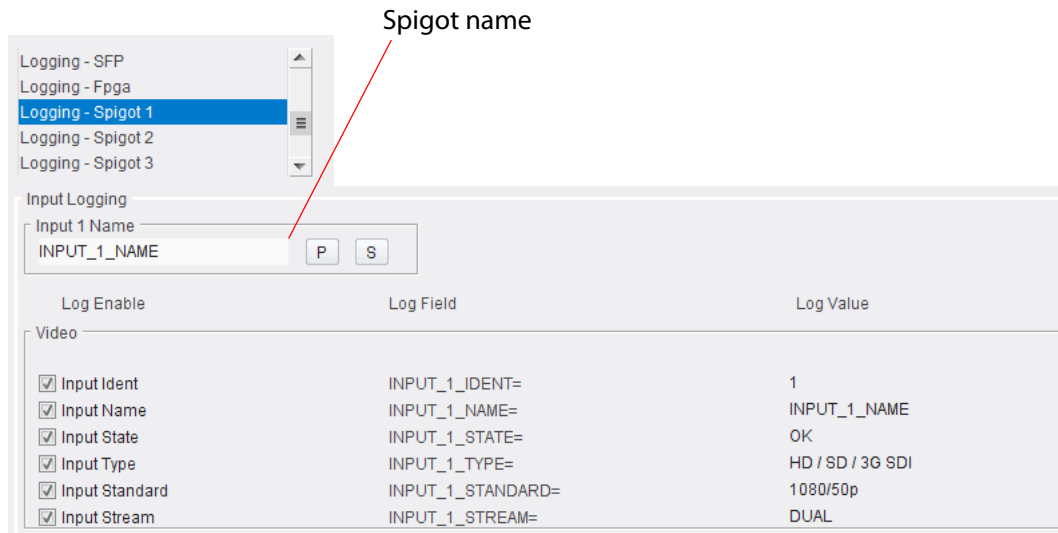

Fig. 6-51: Logging Spigot Template - Source Spigots 1 to 4
- an IP source spigot ("Input N ...", see Figure 6-51); or